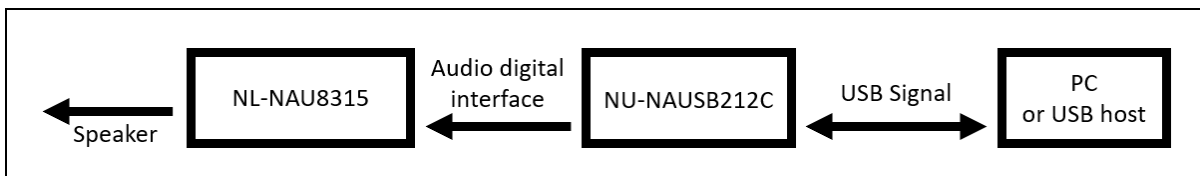

Figure 2-5 Signal Path of NU-NAUSB2I2C and NL-NAU8315
3. CN2 of NU-NAUSB2I2C uses USB Cable to connect to a PC under Windows system. (If possible, please do not connect to the PC through USB HUB). Figure 2-5 shows the audio signal path after the two boards are connected to each other.